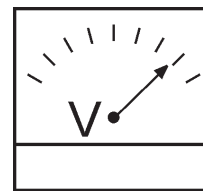

Figure 45. Voltmeter
7. The generator's AC voltmeter (Figure 45) will display the generator's output in **VOLTS**.